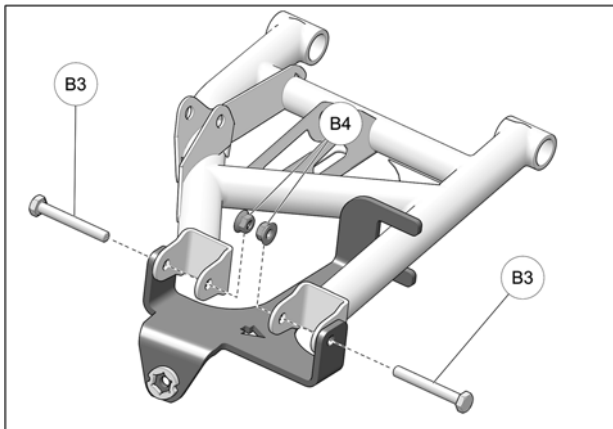

Fig. 6
- Insert the new M10x75mm bolts (B3) through anchor bracket, suspension arm and wheel knuckle. Secure assembly with the provided M10 nuts (B4). Torque nut to 50 N•m [37 lb•ft]. See Fig. 6